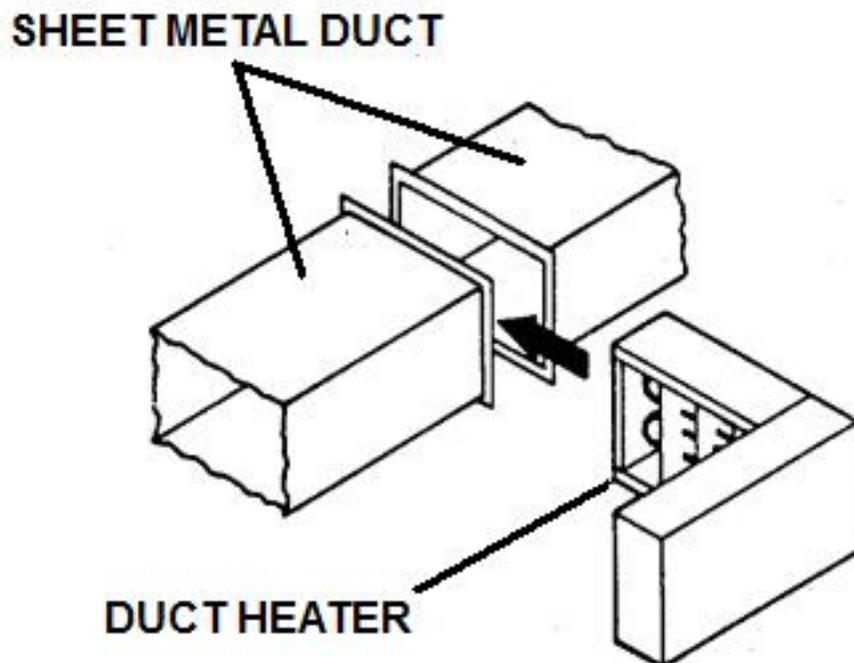

Figure 551-88L-2060_01
2. Conduct maintenance on unit heaters, (refer to Figure 551-88L-2060_02).